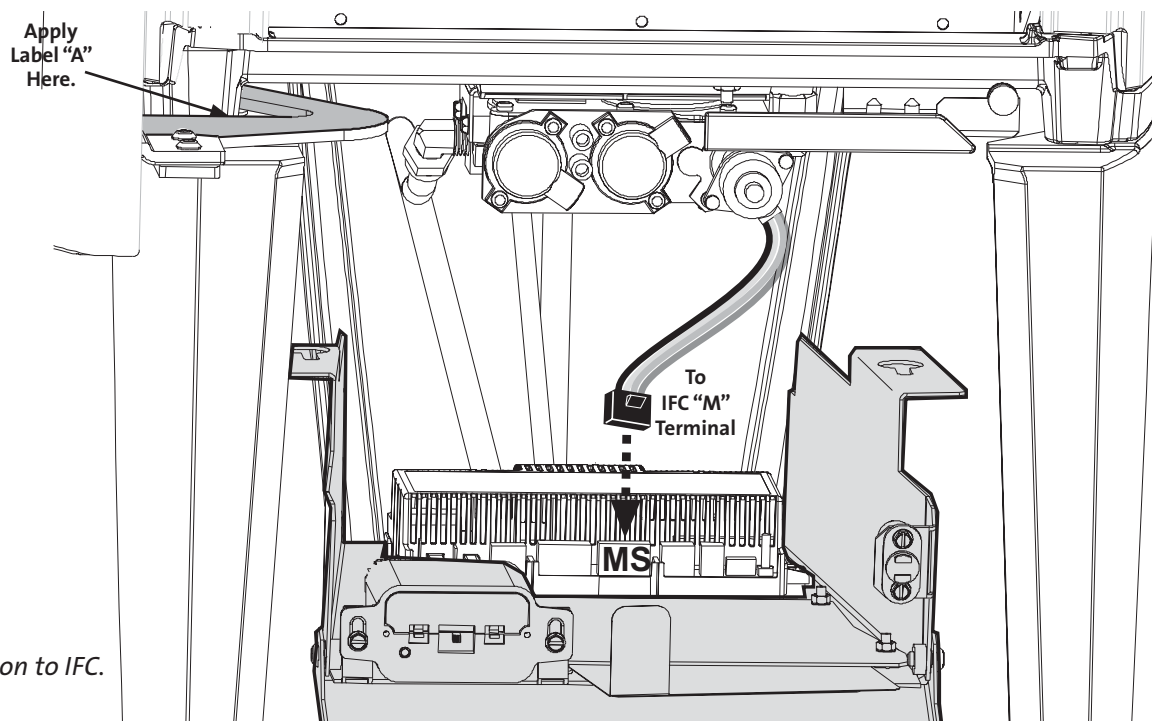

Figure 7.8.
- Remove the regulator components from the valve and disconnect the motor leads from the IFC box as shown in fig. 7.8.
- Connect the motor leads to **Terminal M** on the IFC. See Fig. 7.8.
- **Label A:** apply to the **Lower Door Hinge**. Fig. 7.8.